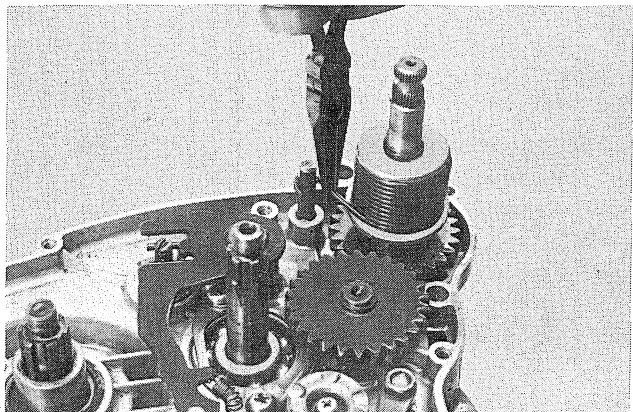

Fig. 3-10-5
- 1) Detach the spring from kick axle and remove the spring. (Fig. 3-10-5)